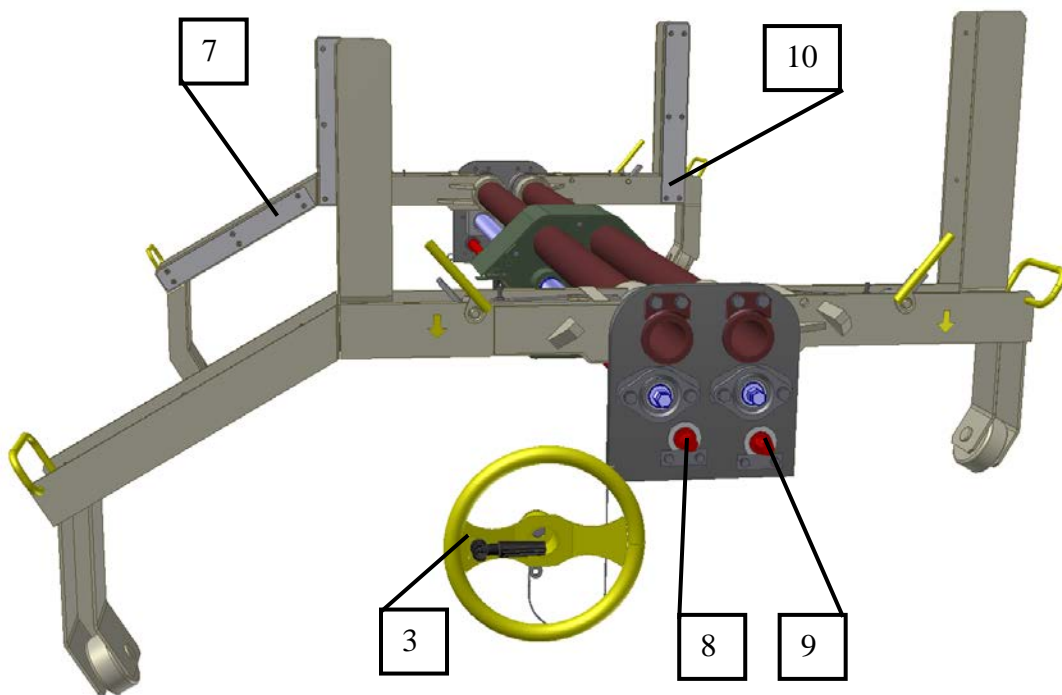

Figure 10 *Fine movement of opposite arms*
Figure 10 shows operation of opposite arms. To move the opposite left arm (7), the handwheel (3) needs to be attached to the left side shaft (8). To move the opposite right arm (10), the wheel (3) needs to be attached to the right-side spindle (9).